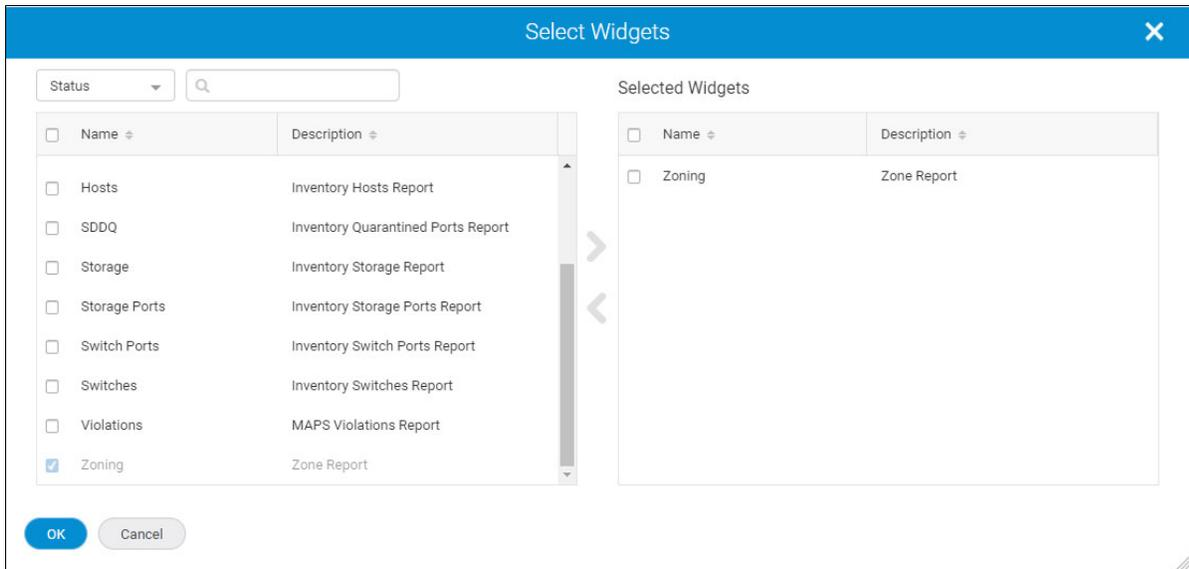

Figure 5-51 Creating a zoning report
2. Click **+** in the upper right, and then select **Report** → **Select Widgets** from the available options. The Select Widgets window opens (Figure 5-51).